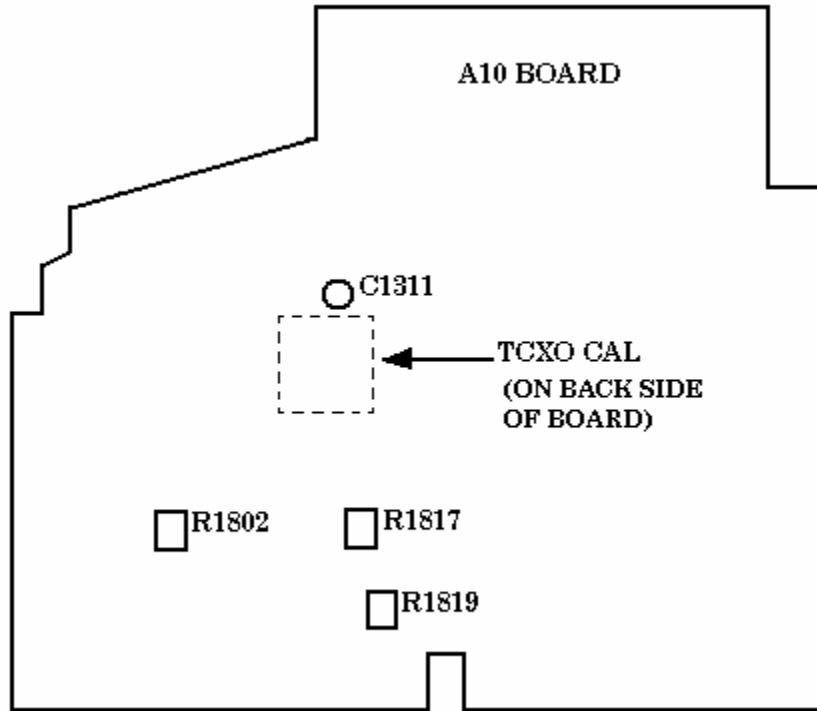
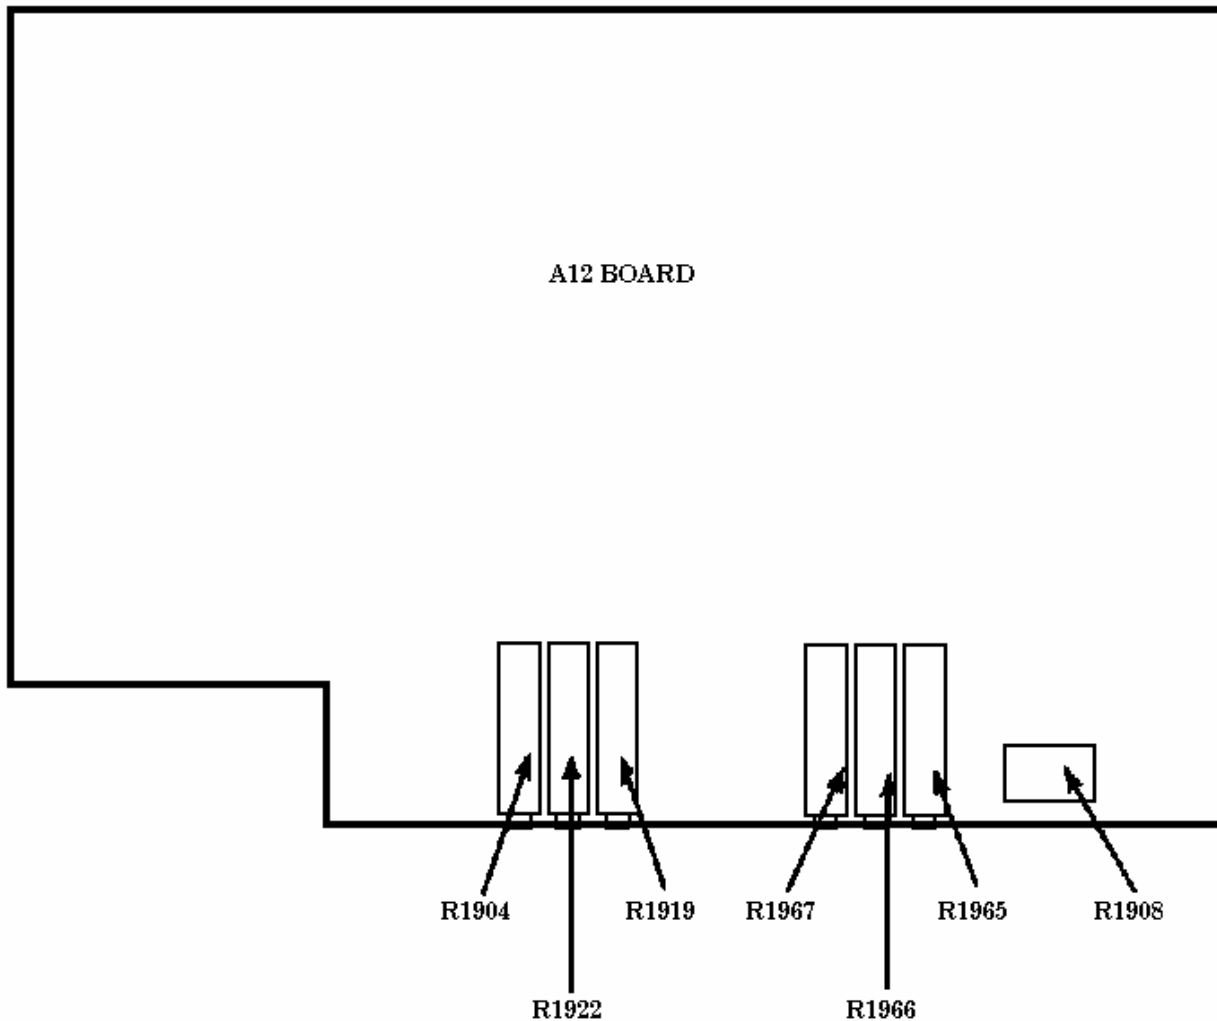

Figure 3. CTM adjustment locations.
Figure 4. A12 board adjustment locations.
- (1) Set all outputs to minimum and disconnect equipment setup.
- (2) Press TI **UPPER FUNCTIONS IN LOWER FUNCTIONS OUT** pushbutton to the **IN** position.
- (3) Press TI **PER** pushbutton.
- (4) Connect time frequency generator **J6** output (rear panel) to TI **CH 1** input.
- (5) Set time frequency for a 1 MHz output.
- (6) Adjust C1311 (2236/2236A) (fig. 3) or TCXO CAL (Option 14) (fig. 3) for a TI indication of 1.00000 μ s.
- (7) Press TI **FREQ** pushbutton.
- (8) Adjust C1311 (2236/2236A) (fig. 3) for a TI indication between 999.9991 kHz and 999.9999 kHz or adjust TCXO CAL (Option 14) (fig. 3) for a TI indication of 1.000000 MHz.
- (9) Disconnect time frequency generator **J6** output (rear panel) from TI **CH 1** input.
- (10) Set TI **HORIZONTAL MODE A ALT B** switch to **A**.
- (11) Press TI **DCV** pushbutton.
- (12) Rotate R1819 (fig. 3) to fully ccw position.
- (13) Connect a short between TI **MULTIMETER INPUTS**.
- (14) Adjust R1817 (fig. 3) for a TI indication of .0000 V.
- (15) Remove short from TI **MULTIMETER INPUTS**.
- (16) Adjust R1819 (fig. 3) for a TI indication of .0000 V.
- (17) Repeat technique of (13) through (16) above until no further improvement is noticed.
- (18) Connect calibrator **OUTPUT** terminals to TI **MULTIMETER INPUTS**.
- (19) Set calibrator for a DC output of 400 mV.
- (20) Adjust R1919 (fig 4) for a TI indication of .4000 V (R).
- (21) Set calibrator for a DC output of -400 mV.
- (22) Check TI reading is between -.3999 and -.4001.
- (23) Set calibrator output to minimum.
- (24) Press TI **UPPER FUNCTIONS IN LOWER FUNCTIONS OUT** pushbutton to the **OUT** position.
- (25) Press TI **AC RMSV** pushbutton.
- (26) Rotate R1908 (fig. 4) to fully cw position.
- (27) Connect a short between TI **MULTIMETER INPUTS**.
- (28) Adjust R1908 (fig. 4) until TI last digit is 0 and does not toggle between 0 and 1.
- (29) Remove short from TI **MULTIMETER INPUTS**.
- (30) Connect calibrator **OUTPUT** terminals to TI **MULTIMETER INPUTS**.